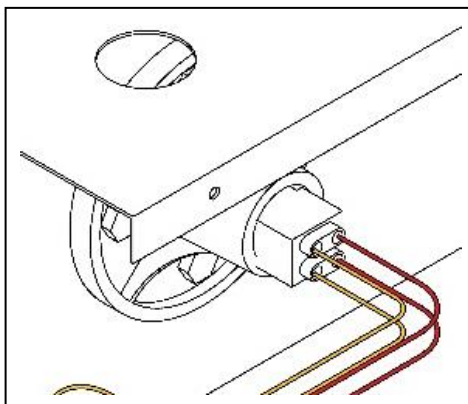

Figure 5
6.) Disconnect lamp plugs from lamps that will be replaced. See Figures 5 and 6.
12.) Reconnect lamp plugs. See Figures 5 and 6.